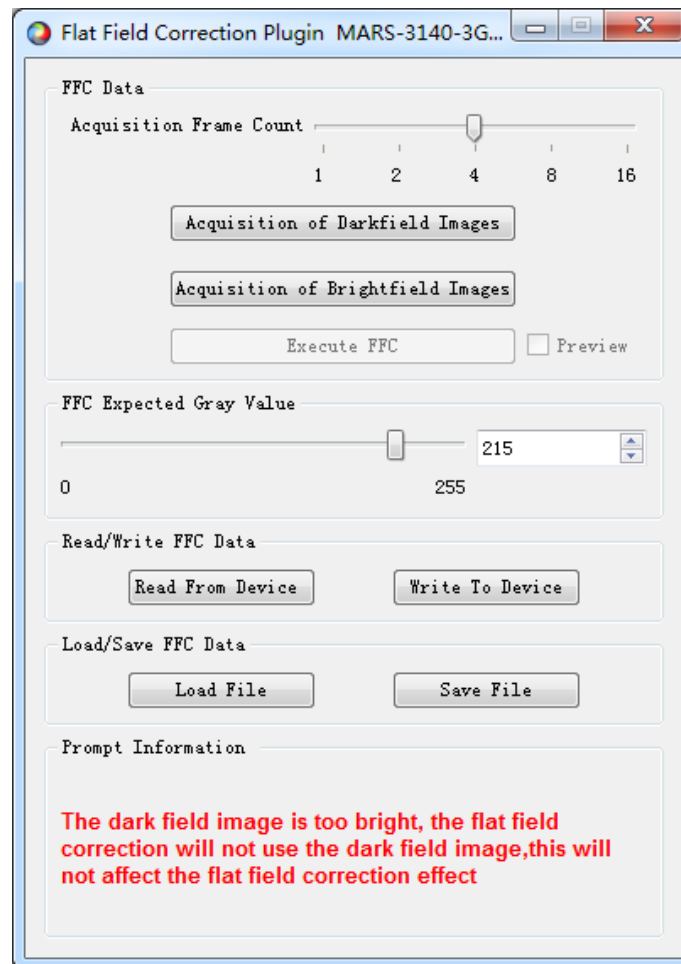

Figure 9-13 The darkfield image is too bright
- 3) If the brightness of the currently acquired darkfield image is greater than 20, the prompt information given in the prompt box is as shown in Figure 9-13. That is, when the flat field correction is executed, the darkfield image is not used, and the effect of flat field correction is not affected.